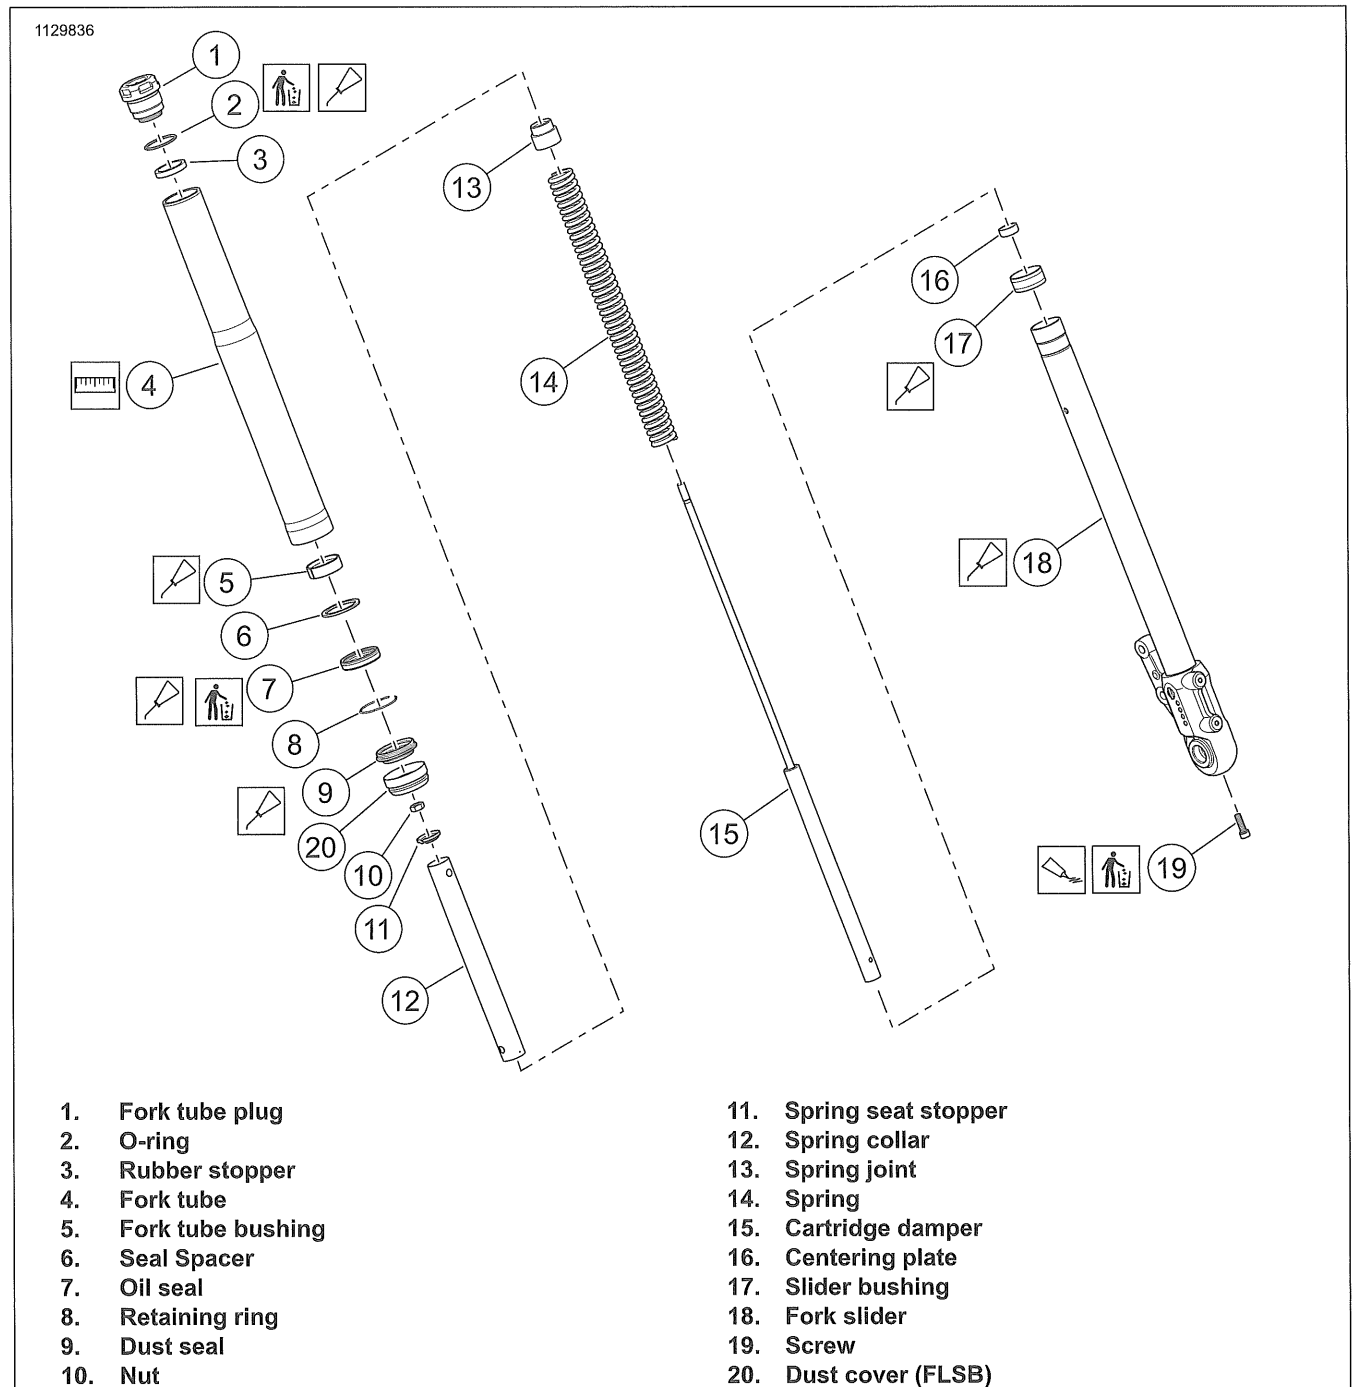

Figure 3-77. Cartridge Fork (Left Side)
2. See Figure 3-77 .
- a. Remove fork tube plug (1).
- b. Compress fork assembly to expose cartridge damper (15) rod.
- c. Hold nut (10). Remove fork tube plug (1) from end of damper rod.
- d. Discard O-ring (2).
- e. See Figure 3-77. Remove spring seat stopper (11), spring collar (12) and spring joint (13).
- f. Remove fork assembly from tool. Remove spring (14).
1. See Figure 3-77. Remove cartridge damper (15).
- c. While compressing spring (14) to prevent rotation of damper, remove screw (19). Use an air impact wrench for best results.
- e. Remove spring (14) and cartridge damper (15) from fork tube.
1. See Figure 3-77. Assemble fork slider.
- If equipped, install dust cover (20) onto fork slider (18).
- Install dust seal (9), retaining ring (8), oil seal (7), seal spacer (6) and fork tube bushing (5) onto fork slider.
- Lightly coat fork slider (18) and slider bushing (17) with fork oil.
- Install slider bushing (17). Expand bushing only enough to fit onto fork slider (18).
- Install centering plate (16).
- Install fork slider (18) into fork tube (4).
- Slide cartridge damper (15) into fork slider (18).
- Apply LOCTITE 243 MEDIUM STRENGTH THREADLOCKER AND SEALANT (blue) to new screw (19).
- Install screw (19). Tighten.
2. See Figure 3-77. Install fork spring.
- Fully extend fork. Install spring (14) with tightly wound end at bottom.
- Install spring joint (13) and spring collar (12).